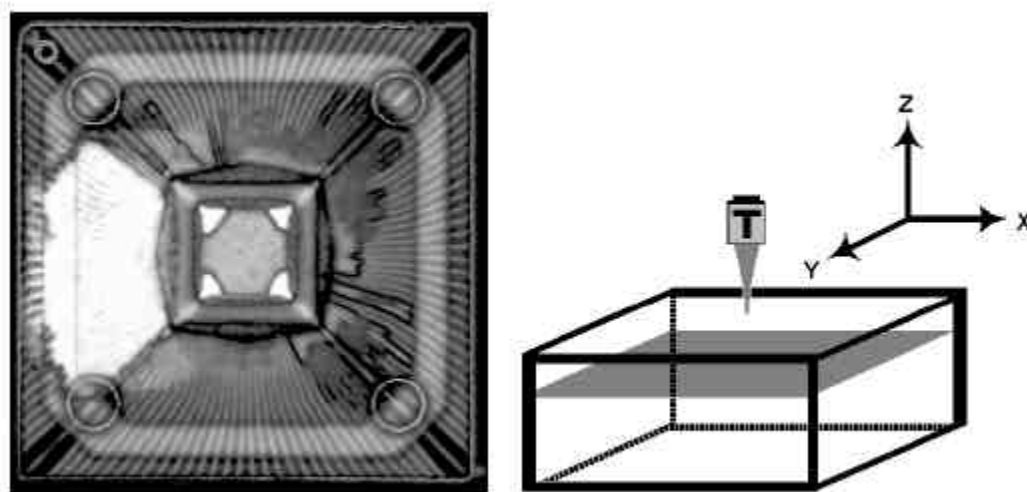

Figure 3 — Example of C-mode Display
Acoustic data collected in an X-Y plane at depth (Z) using a reflective acoustic microscope. A C-mode scan contains amplitude and phase/polarity information at each point in the scan plane. A C-mode scan furnishes a two-dimensional (area) image of echoes arising from reflections at a particular depth (Z). See Figure 3.